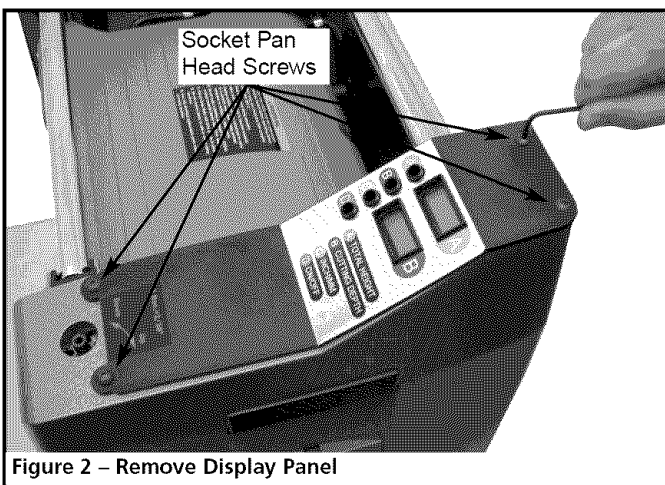

Figure 2 – Remove Display Panel
- Loosen and remove four socket head pan screws and then remove the display panel cover (see Figure 2).